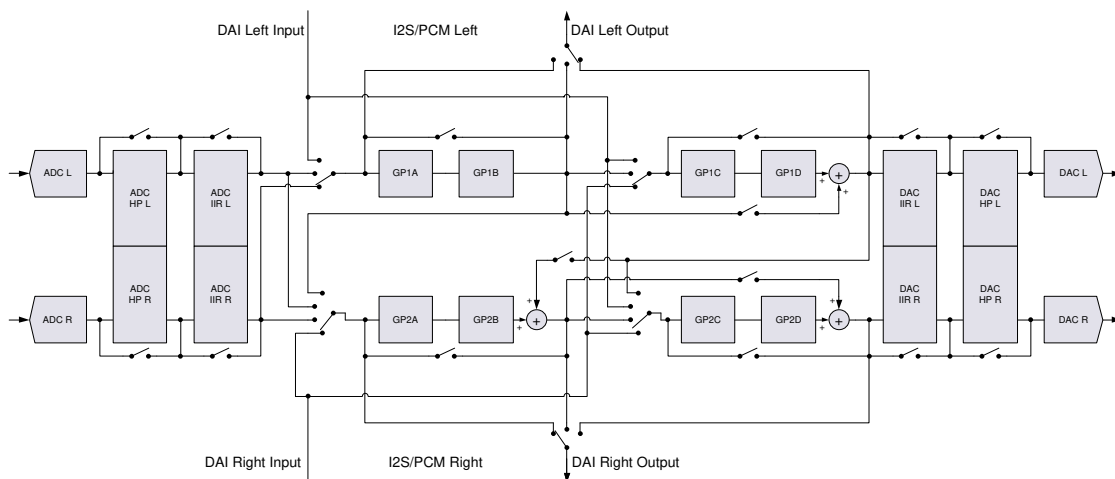

Figure 15: Digital Signal Processing Engine (Simplified Block Diagram)
A digital high pass filter for each DAC channel is implemented (configurable by control DAC_HPF_F0 (address 0x14, Table 56) that can be enabled via control DAC_HPF_EN (address 0x14, Table 56, see blocks 'DAC HP' in Figure 15). After Reset, the high pass filters for both channels are enabled by default.
The digital signal processing engine includes a configurable audio processor that offers flexible routing and extensive audio enhancement and effects. Linear phase FIR filters perform the interpolation and decimation for the required sigma-delta sample rates. Configurable high-pass filtering (optionally enabled) removes any signal DC offset (see blocks 'ADC HP' and 'DAC HP' in Figure 15) and offers 5-band equalisation during recording and sound playback.
Alternatively it can provide dedicated voice band filtering at samples rates ≤ 16 kHz (see blocks 'ADC IIR' and 'DAC IIR' in Figure 15).
An additional general purpose (GP) filter engine offers up to eight second-order biquad filter stages with configurable 16-bit coefficients, and supports flexible digital audio routing and mixing arrangements. Figure 15 shows some possible routings (a subset of the available settings) for filter blocks GP1A to GP2D with the related control registers. Typical use cases with example configurations are explained in the section 8.3.
To allow user-specific sound control, the recording path includes a programmable 5-band equaliser (combined in the ADC IIR blocks in Figure 15). This is enabled using control ADC_EQ_EN (address 0x13, Table 55).